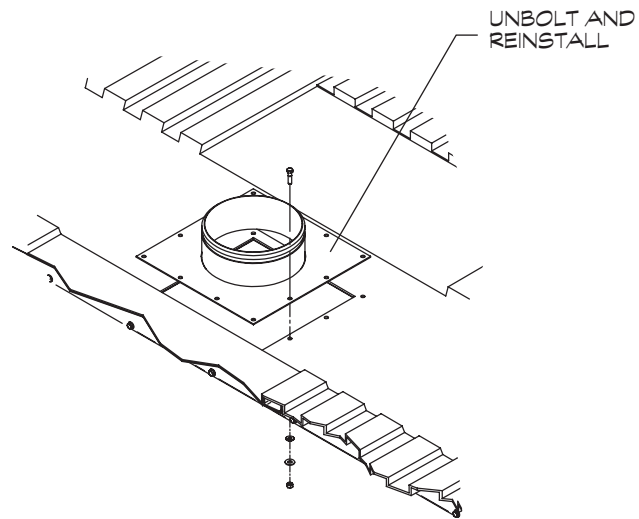
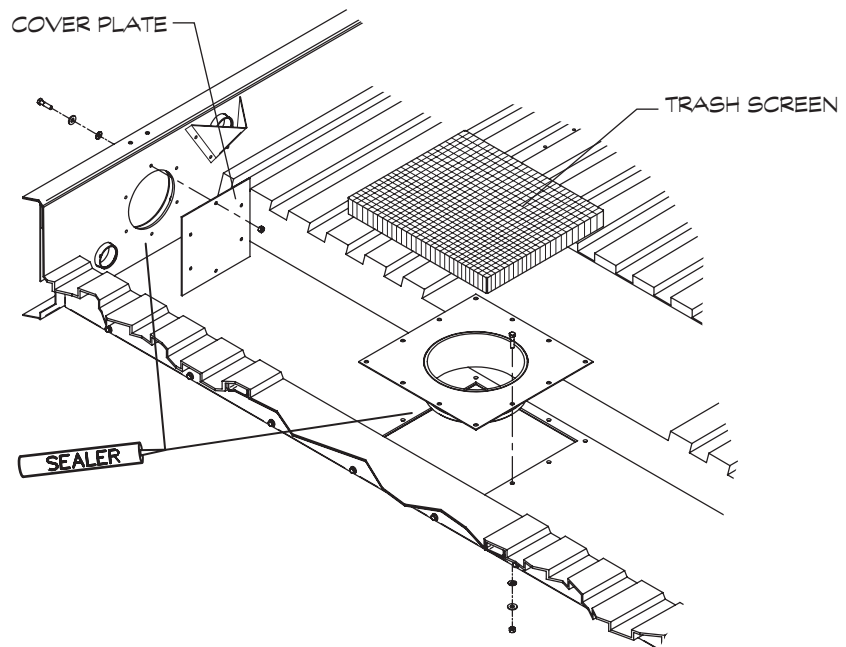

Figure 1A
Figure 1B
Figure 1A and 1B. The bottom outlet arrangement is also used for equalizer connections between basins.
4. The welded galvanized pipe assembly utilized on some models P14 and P15 ships within the tower basin. Unbolt as shown in Figure 1A and reinstall as shown in Figure 1B. Apply sealer as shown and reuse existing hardware as well as additional hardware shipped with tower. If a weld connection is used, it is recommended that the weld area be protected against corrosion. Cold galvanizing is suggested, applied according to the manufacturer's instructions.